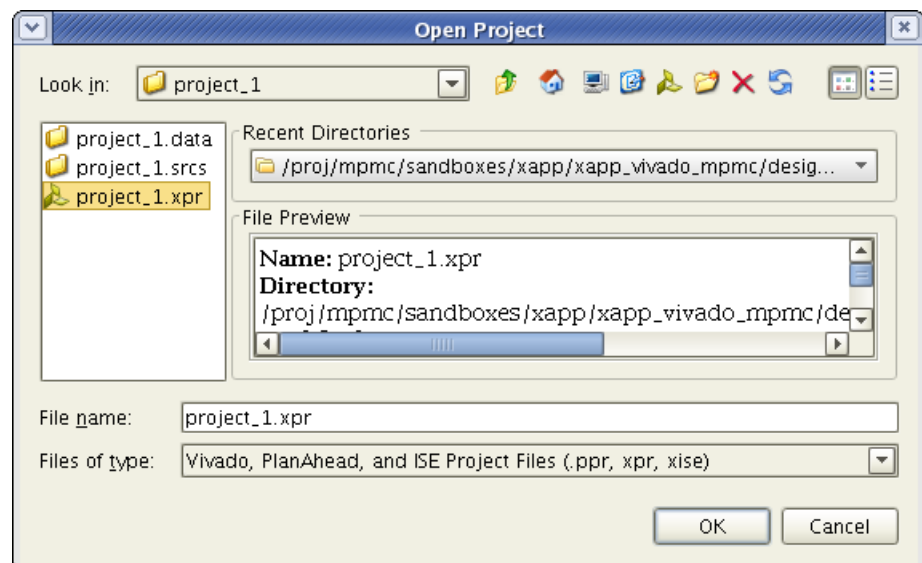

Figure 3: Browse Project Dialog Box
6. Select **Browse Projects**, and choose `<design_dir>/vivado/project_1/project_1.xpr` (Figure 3).